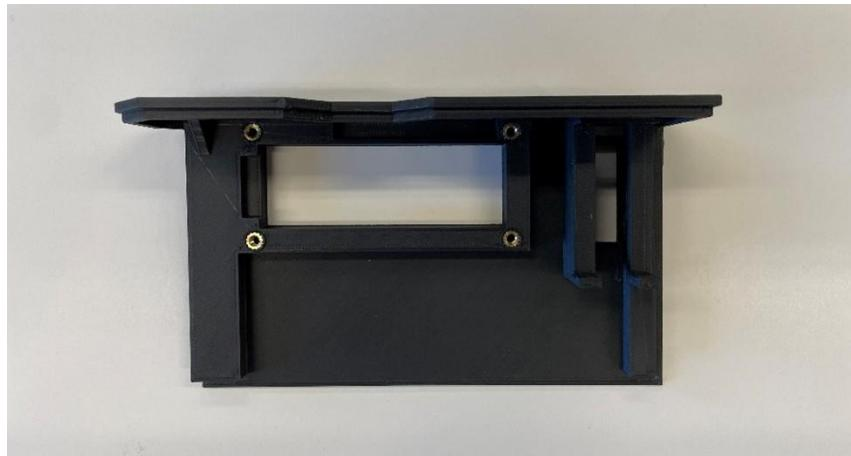

Figure 1.3- Heat inserts in place.
- 2) Install heat inserts with a hot soldering iron (Figure 1.3).